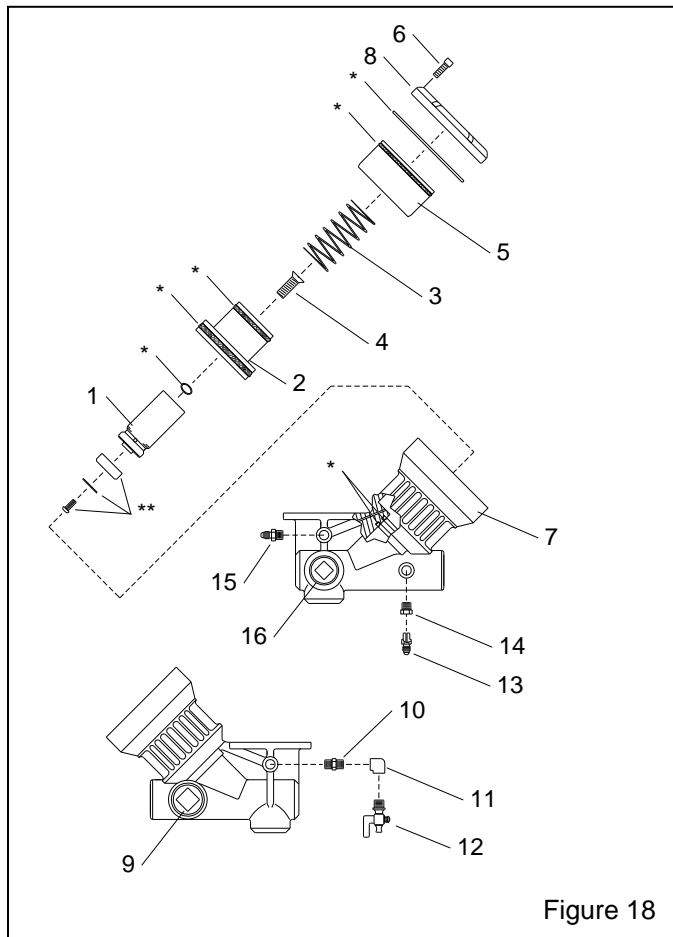

Figure 18
**8.6 Millennium Valve, Inlet Segment, Figure 18**